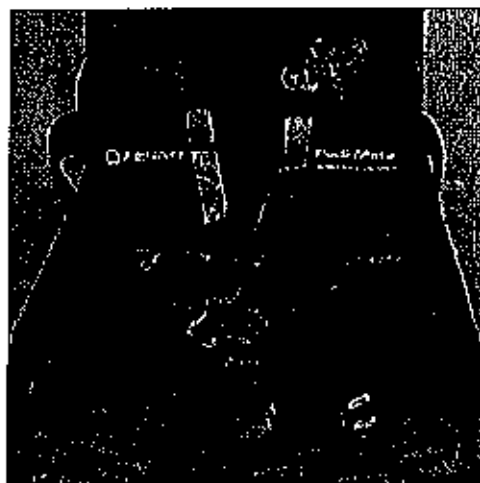

Figure 74
3. Position the Pedi-Mate® pad flat on the backrest with the black backrest straps out (see Figure 74).